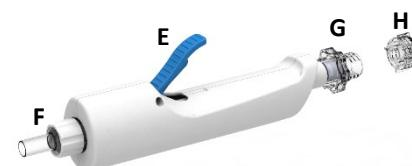

Figure 2: Handpiece
The CLEANER Vac™ 18F Aspiration Catheter and Handpiece consists of a Handpiece (Figure 2) with Aspiration Control Lever (E), connection to the Aspiration Catheter (F), and connection to the aspiration tubing (G) as well as a Flushing Adapter (H).